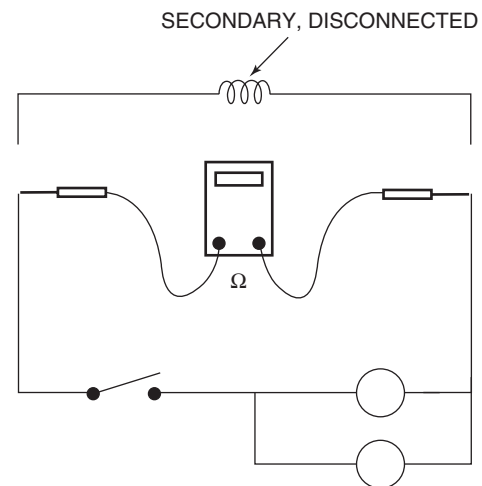

FIGURE 27–16 Testing the control circuit for a short.
In order to locate the short, disconnect the secondary portion of the circuit from the transformer. Using an ohmmeter, measure what the transformer secondary is “seeing” (Figure 27–16). If there is a short, the ohmmeter will read zero ohms. Disconnect devices from the circuit until the short disappears. When the shorted device or wiring has been repaired, then the transformer can be replaced.
1. In the circuit of Figure 27–2, the compressor is not running. The voltage measured between L1 and L2 is correct at 220 volts. The voltage measured along the contact coil is 24 volts. This proves:
2. In the circuit of Figure 27–2, the correct voltage 220 volts is available between L1 and L2. The compressor is not running. When the contactor is mechanically depressed with an insulated screwdriver, the compressor remains off. This proves: